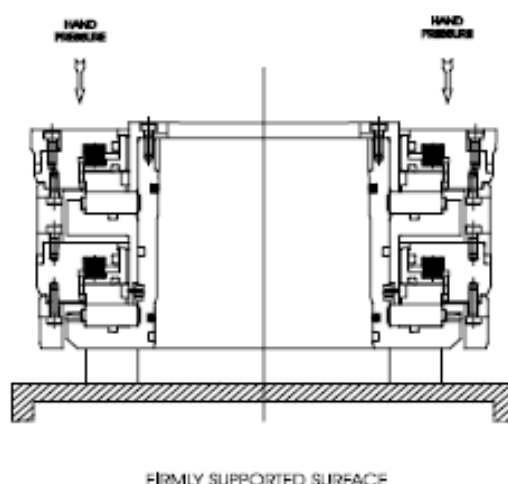

Figure 1
- Apply even hand pressure to the seal stator (as indicated in Figure 1) such that the seal is slowly compressed into itself.